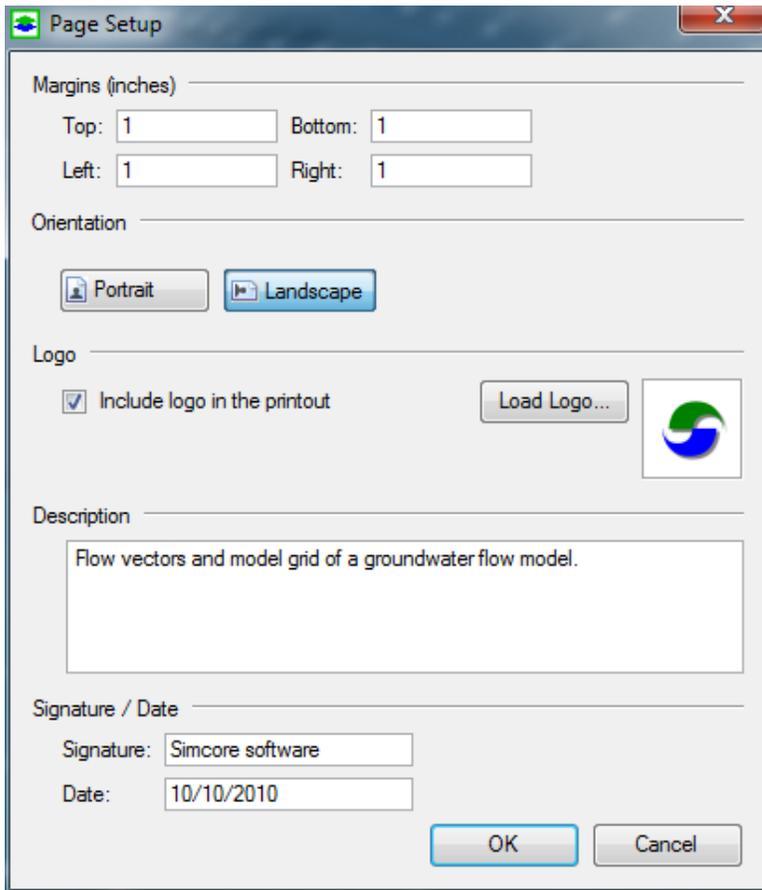

Figure 1.5. The Page Setup dialog box
- *Page Setup*: Displays the Page Setup dialog box (Figure 1.5) that lets you define the margin, orientation, logo, and description of the page.